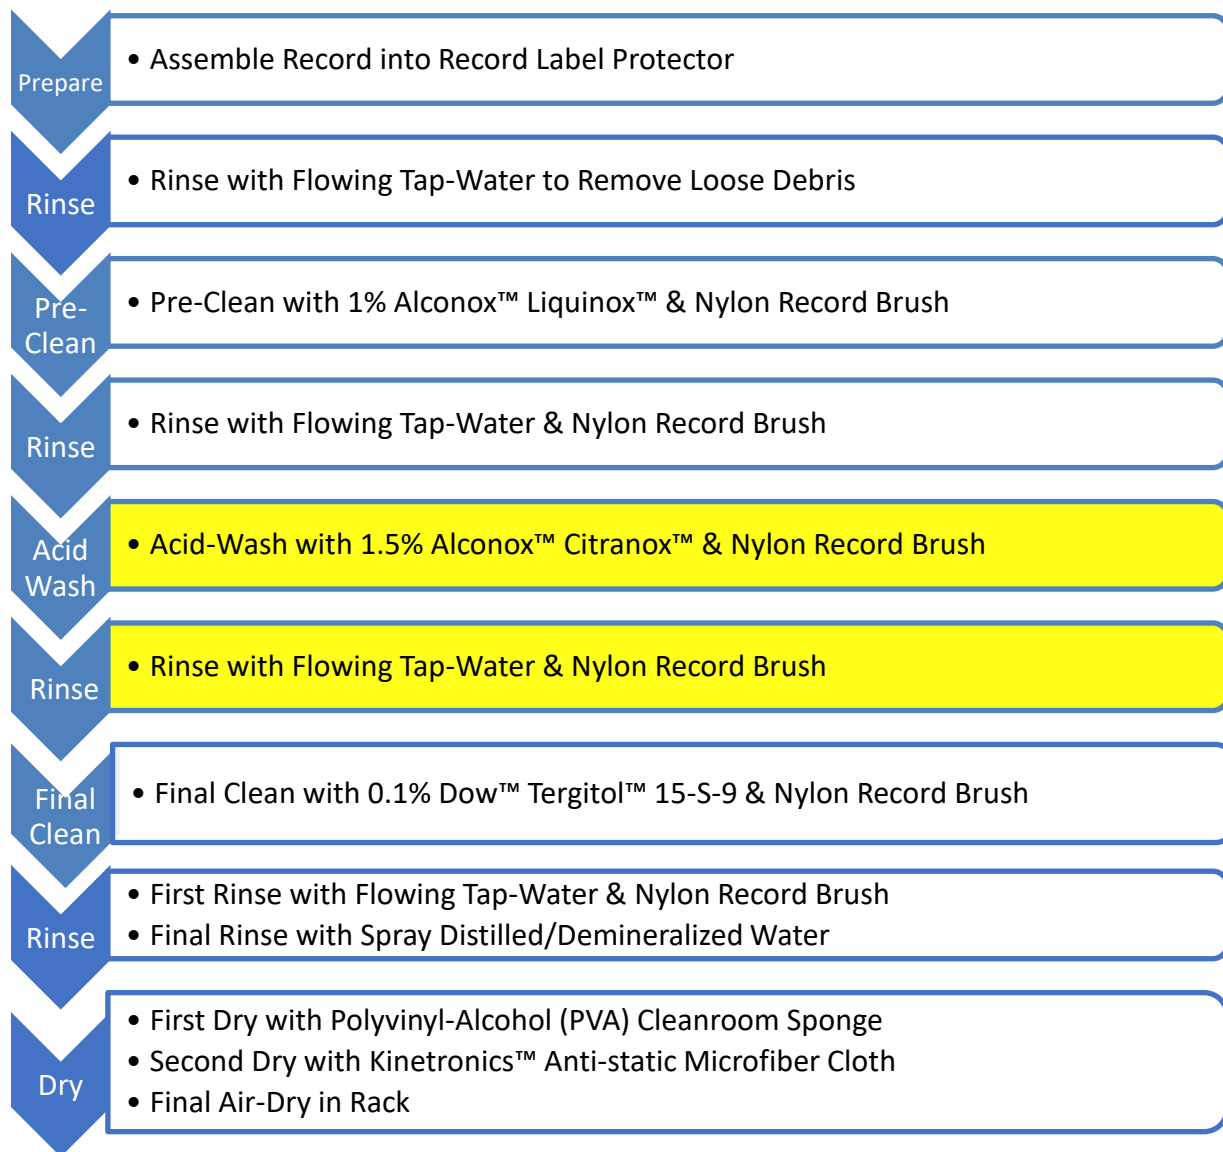

Figure 6 – Precision Aqueous Vinyl Record Cleaning Process Summary
The manual precision aqueous vinyl record cleaning procedure detailed by this document began with the cleaning process used by the *United States Library of Congress* (42) to clean delicate lacquer records. That procedure was then modified following the fundamentals developed for *MIL-STD-1330D Precision Cleaning and Testing of Shipboard Oxygen, Helium, Helium-Oxygen, Nitrogen, And Hydrogen Systems* (51) and *MIL-STD-1622B Standard Practice for Cleaning of Shipboard Compressed Air Systems* (52). The resulting cleaning procedure is a multi-step process that uses readily available materials, is very economical, is safe (when used correctly) and is summarized in **Figure 6**.